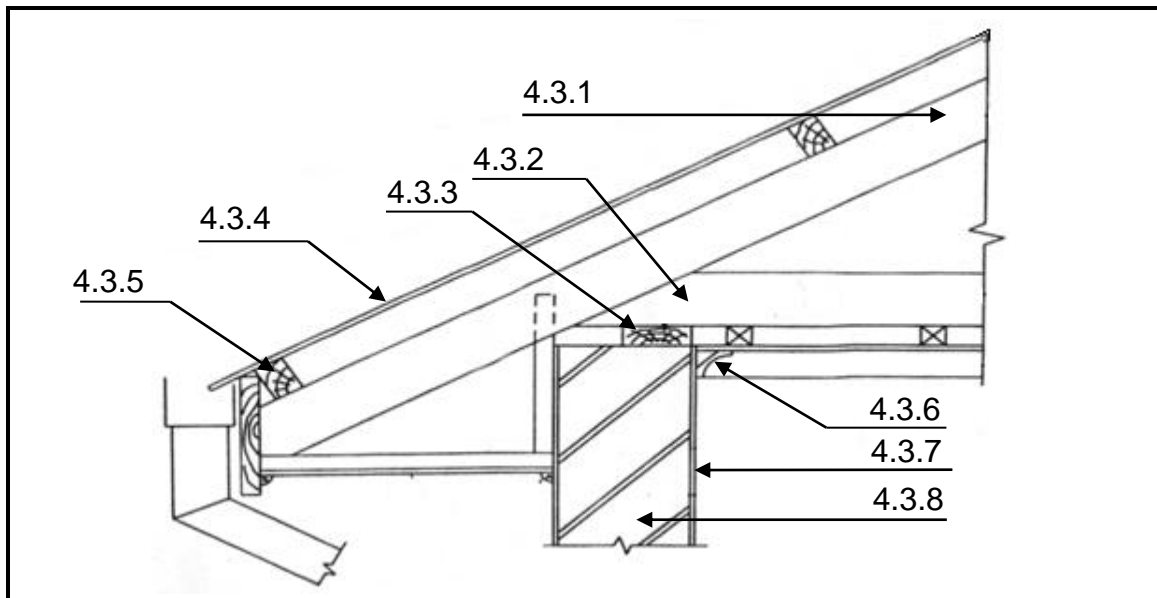

FIGURE 4.3
- 4.3 FIGURE 4.3 shows a detailed sectional view of part of a king post roof truss. Study the drawing and name the parts 4.3.1 to 4.3.8. (8)